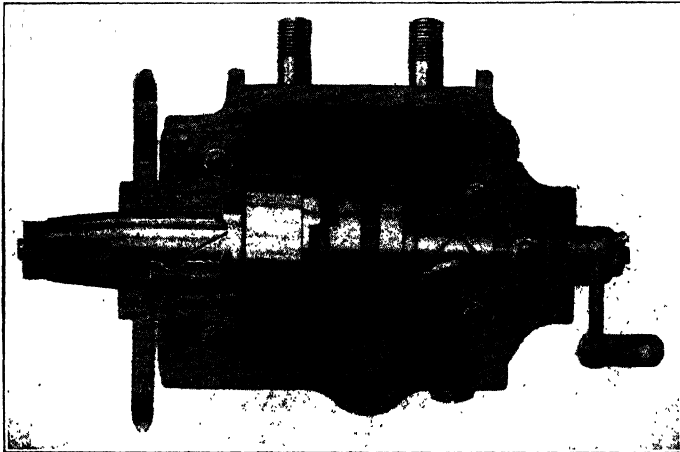

Fig. 45. Indian Neutral Countershaft
*One-Speed.* The one-speed gear—if it can be so called—is merely a dog-clutch arrangement, Fig. 45, used to disconnect the motor from the rear wheels when the clutch is in engagement. The central part is a ring which can be moved from right to left in order to fit the notches in its face into those on an